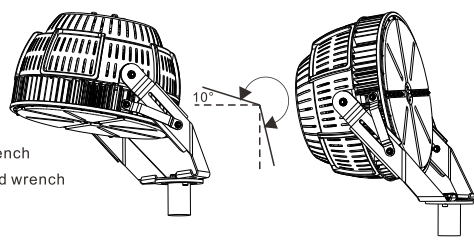

Figure 15
4. According to the need, carry out the projection angle adjustment, angle adjustment range (Figure 15);